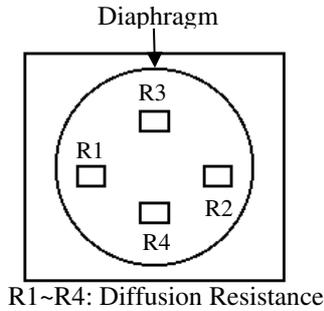
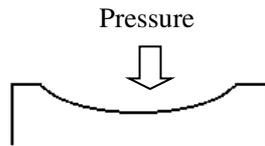

Fig.1 Pressure Sensor
Fig.2
A diffusion-type semiconductor pressure sensor is employed to measure pressure. This diffusion-type semiconductor pressure sensor is based on the Piezoresistance Effect, in which the resistance value changes when pressure is applied. It is configured with four (4) diffusion resistances (sensor chips) located on a thin silicon diaphragm (Fig.1). When pressure is applied from to the pressure sensors and the diaphragm is deflected as shown in Fig. 2, compressive stress is applied to R3 and R4 located at the center of the diaphragm while tensile stress is applied to R1 and R2. The resistance value of the diffusion resistance changes in accordance with the strength of the stress applied.